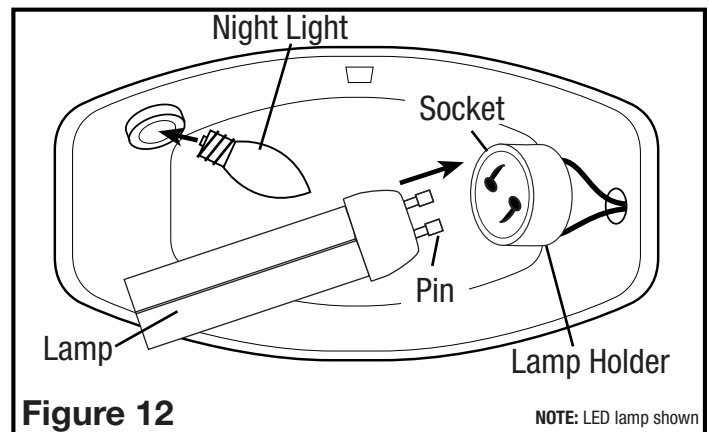

Figure 12
4. Install the included lamp into the lamp holder by lining up the pins on the lamp base to the socket of the lamp holder and turning the lamp body clockwise until the lamp snaps into place and is firmly seated in the lamp holder. Install a 4 watt maximum type C7 (candelabra base) night light (not included) into the side lamp holder (**Figure 12**).
3. **Changing the Lamp:** Disconnect power to the unit. Remove grill by pulling downward on grill and squeezing grill springs together to release from housing (**Figure 13**). Remove Reflector from grill by sliding the reflector notches from beneath the lens clips on grill. (**Figure 12**).